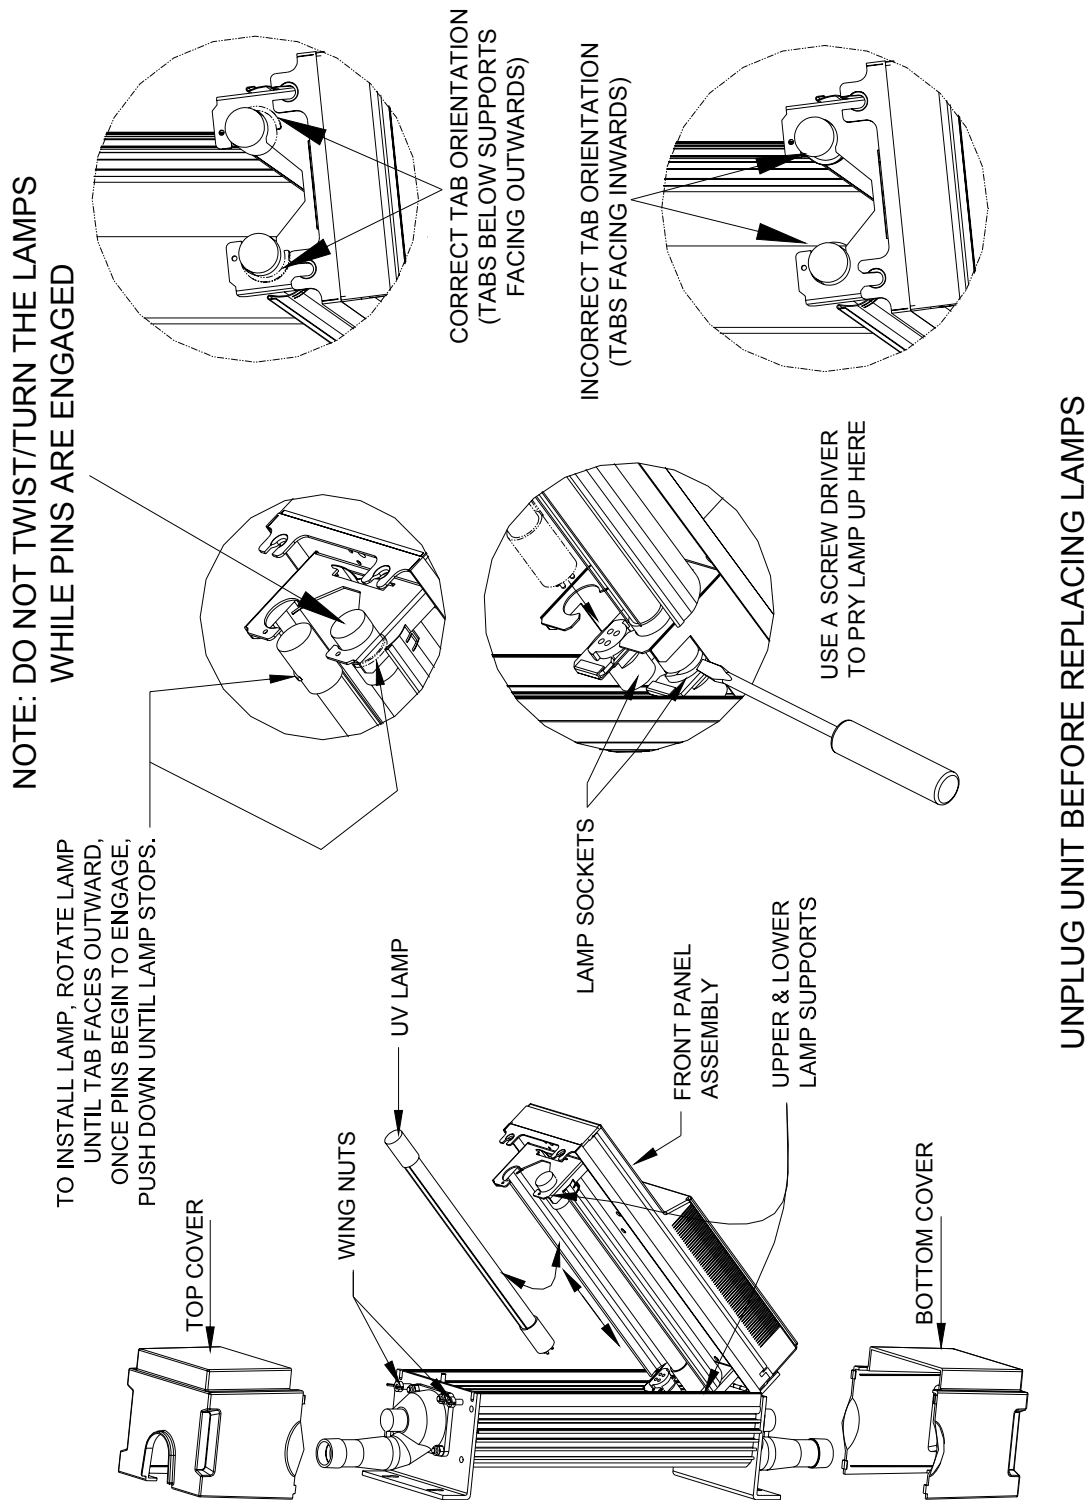

Figure 3
The lamps can be easily replaced in minutes. Draining the system or removing it from the wall is not required. See Figure 3.
Step 2. CAUTION: The lamps are very hot after continuous use and can burn your skin on contact. Allow lamps to cool for five minutes before removing them. Slowly lift the old lamps out of the system. **Do not twist the lamps as they are being removed.** To help remove the lamps, insert a flat bladed screwdriver between the lamp base and its socket and lightly pry the lamps upward (see Figure 3). Dispose of the old lamps in the same way you would dispose of ordinary fluorescent lamps. Note that old lamps should be disposed of at a household waste management depot or transfer station; contact your local recycling and waste management authority for proper disposal procedures.
Step 3: Install the new lamps into the Cactus, being careful not to touch the bulb. **Ensure that the lamps are aligned with the tab facing the outside of the system (left or right side of the system), or, if the lamps have a “stop sign” printed on the top ceramic, ensure that the “stop sign” is facing toward the middle/center of the system. (If you cannot see the stop sign, the position of the lamp is correct; if you CAN see the stop sign, the lamp is backward. Spin the lamp 180 degrees so that you cannot see the stop sign. (See Figure 3)**